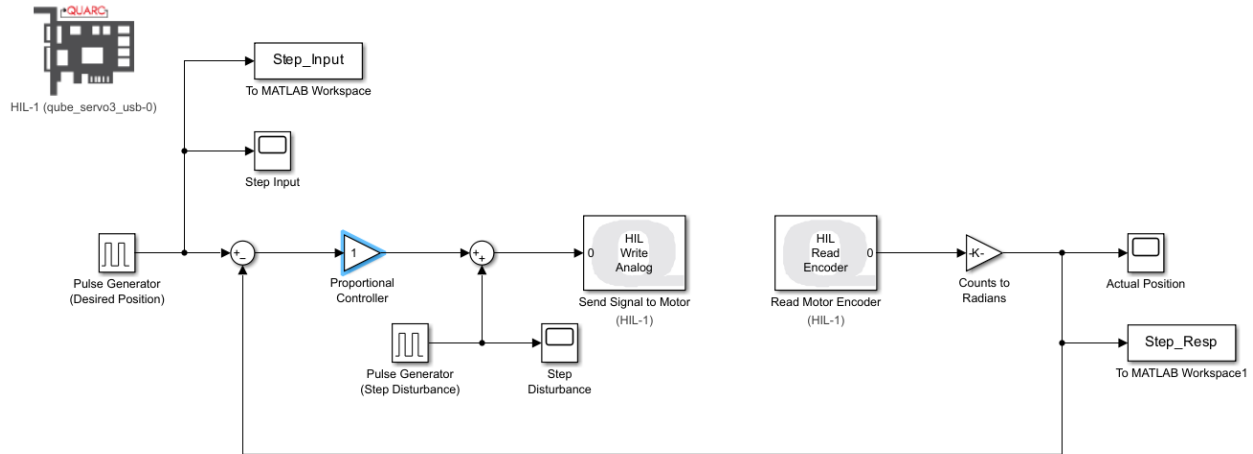

Figure 4: Target Simulink Model for Experiment 1.
- vi) Open the *Gain* block representing the *Proportional Controller* (see Figure 4) and set its *Gain* to 1, i.e., $K_p = 1$. This is the first of two gain values that we will use in this experiment and will lead to an under-damped system (second-order). This *Gain* block is your controller.
- vii) Open the *Gain* block at the output of the *Read Encoder* block which is meant to convert *Counts* to *Radians* (see Figure 4). Set its gain so that it receives *Counts* at its input and outputs position in *Radians* (Hint: You have already done this in Lab 1).
- ix) When you are done building your model by following Figure 1, it should look like the target model shown in Figure 4. **STOP and VERIFY the following (Failure to do so may lead to damaging your motor):**